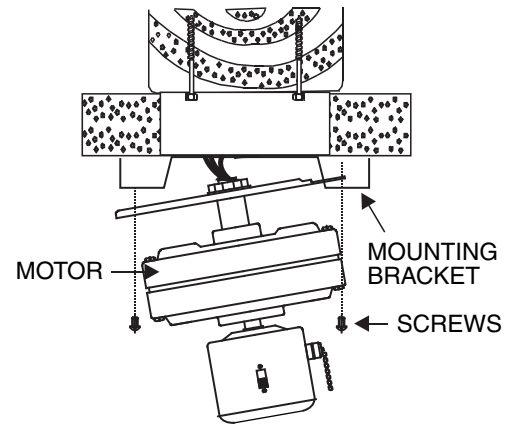

FIGURE 9
1. Swing the motor assembly up into position under the mounting bracket. Secure the bracket to the plate with the screws provided. (Fig. 9)